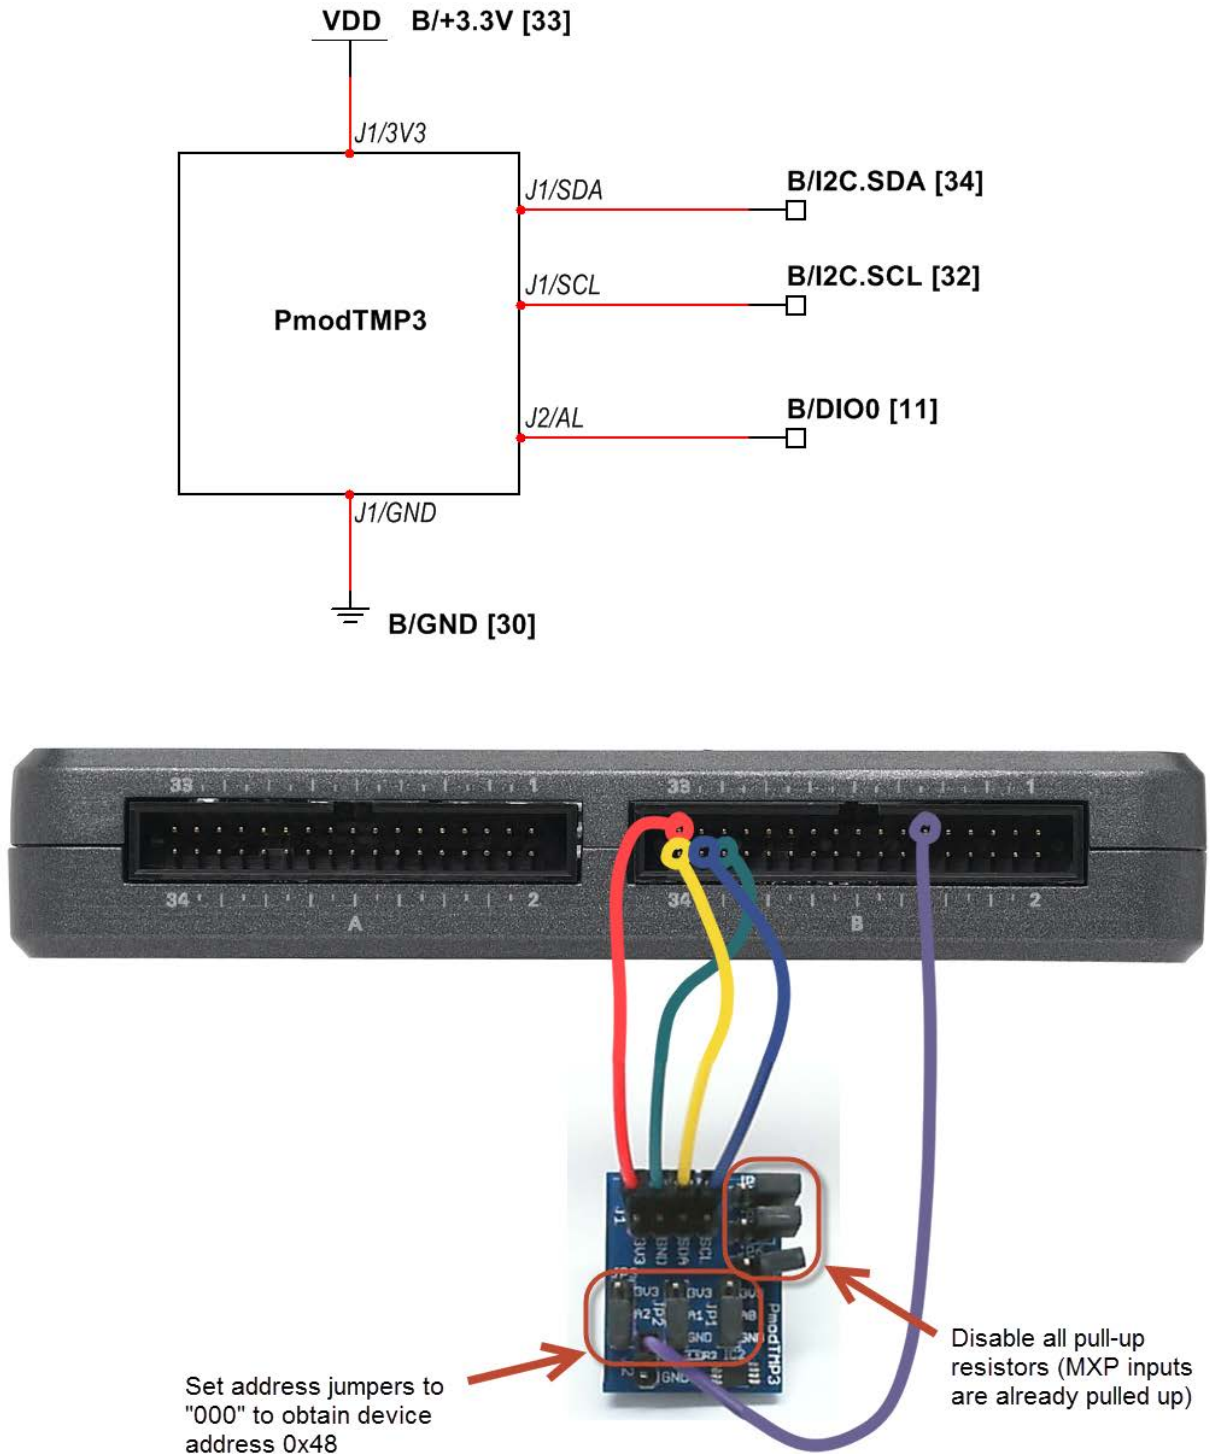

Figure 33.2: Demonstration setup for temperature sensor connected to NI myRIO MXP Connector B. Set *all* jumpers exactly as shown.
Build the interface circuit: Refer to the schematic diagram shown in Figure 33.2 on the following page; the temperature sensor requires five connections to NI myRIO MXP Connector B (see Figure A.1 on page 187):
- Correct PmodTMP3 address jumper settings — refer again to the circled region of Figure 33.2 on the facing page for the proper settings.